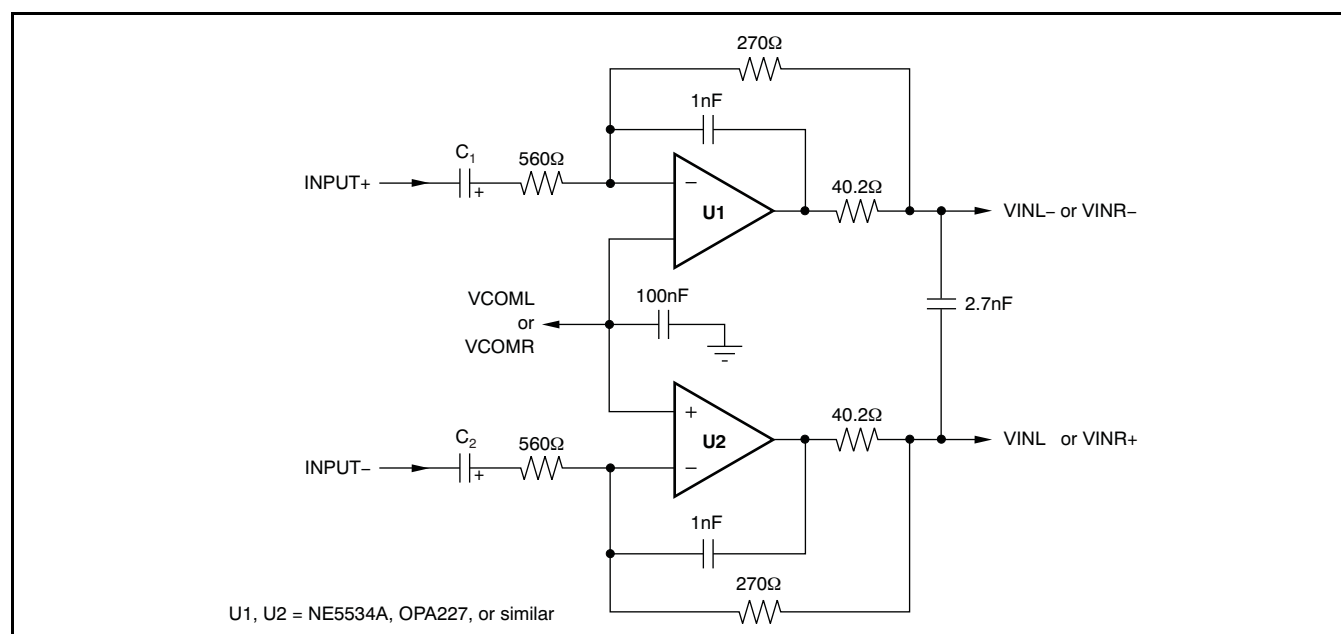

### Figure 45. Differential Input Buffer Circuit Utilizing the OPA1632
Figure 45 illustrates the input buffer/filter circuit utilized on the PCM4222EVM evaluation module, where the PCM4222 analog input section is identical to the PCM4220. This circuit has been optimized for measurement purposes, so that it does not degrade the dynamic characteristics of the PCM4220. The resistors are primarily 0.1% metal film. The 40.2Ω resistor is 1% tolerance thick film. The 1nF and 2.7nF capacitors may be either PPS
**Figure 46** demonstrates the same circuit topology of **Figure 45**, while using standard single or dual op amps. The noise level of this circuit is adequate for obtaining the typical A-weighted dynamic range performance for the PCM4220. However, unweighted performance may suffer, depending upon the op amp noise specifications. Near-typical THD+N can be achieved with this configuration, although this performance also depends on the op amps used for the application. The **NE5534A** and **OPA227** (the lower cost 'A' version) are good candidates from a noise and distortion perspective, and are reasonably priced. More expensive lower-noise models, such as the **OPA211**, should also work well for this configuration. Feedback and input resistor values may be changed to alter circuit gain. However, it is recommended that all circuit changes be simulated and then tested on the bench using a working prototype to verify performance.
Figure 47 illustrates a differential input circuit that employs a noninverting architecture. The total noise and distortion is expected to be higher than that measured for Figure 45 and Figure 46. As with Figure 46, the NE5534A and OPA227 are good candidates for this circuit, although similar op amps should yield equivalent results.